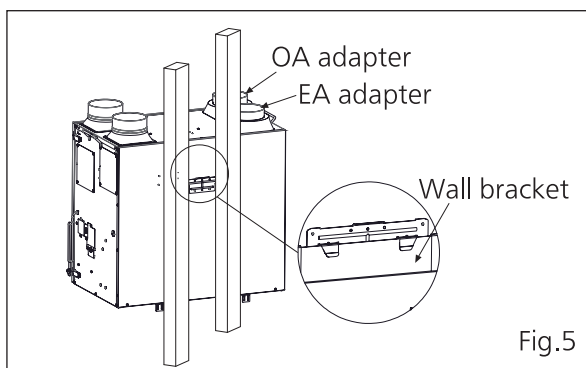

Fig.5
- Make sure the OA/EA adapter is upward. (Fig.5)